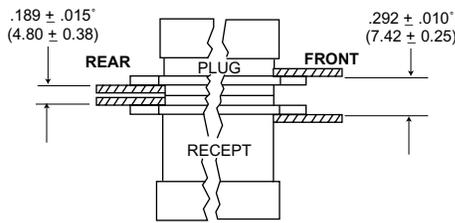

Figure 1
1. With both connectors rear mounted, use #4-40 flat head screws flush with the panel (Fig. 1).
6. With plug assembly front mounted and receptacle assembly rear mounted (plug assembly has float mounting screw), use hardware from figure 1 for receptacle assembly.
7. With plug assembly rear mounted and receptacle assembly front mounted, use hardware from Figures 1 and 2.
9. Electrical contact engagement when mounted per Figure 1 is .046 (1.17) min./0.070(1.78) max.